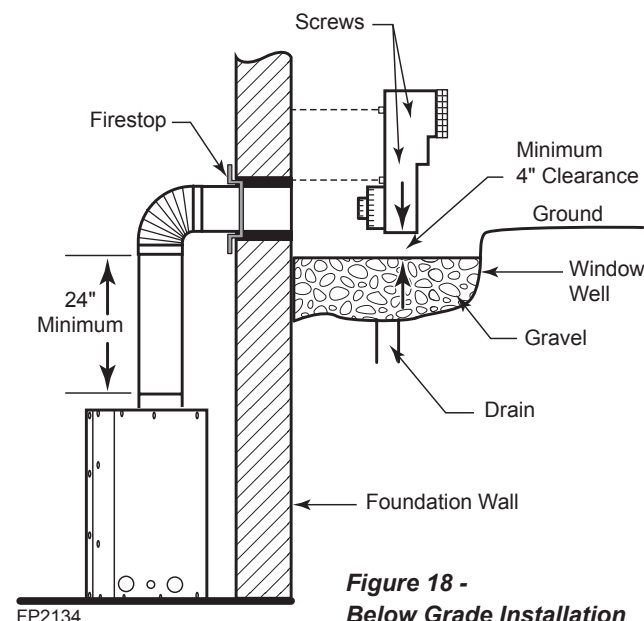

**Figure 18 -
- The maximum number of 45° elbows permitted per side wall installation is two (2). These elbows can be installed in either the vertical or horizontal run.
- The maximum number of elbow degrees in a system is 270°. *Figure 18*
2. Remove soil to a depth of approximately 16" below base of snorkel. Install drain pipe. Install window well (not supplied). Refill hole with 12" of coarse gravel leaving a clearance of approximately 4" below snorkel. *Figure 18*
7. Level the soil so as to maintain a 4" clearance below snorkel. *Figure 18*